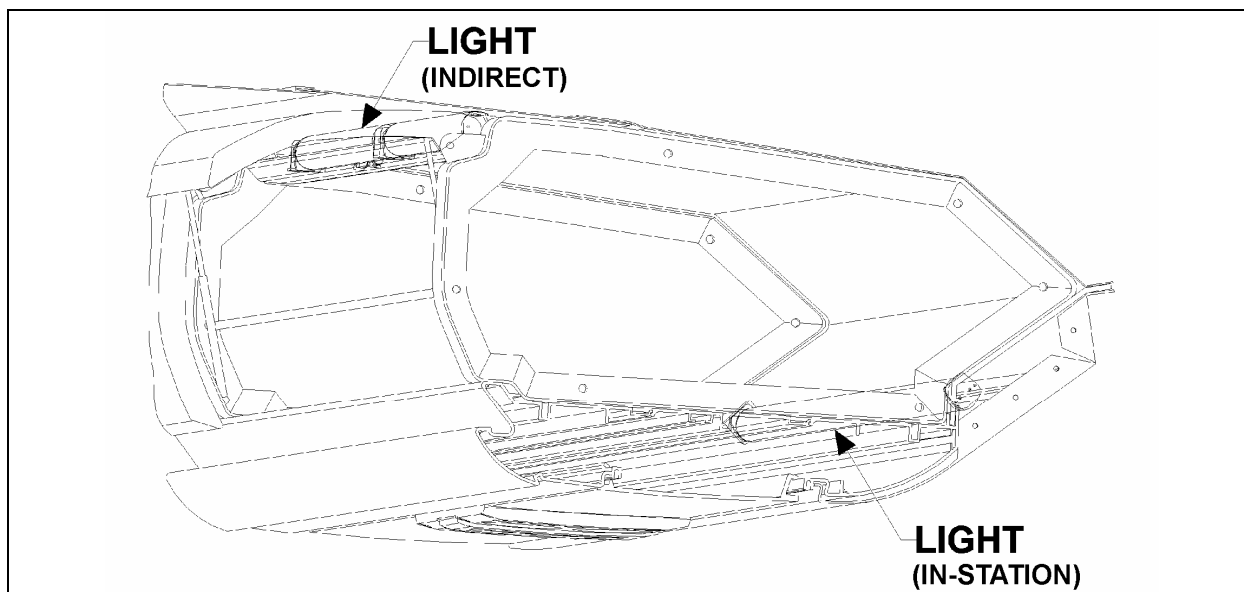

FIGURE 34: PARCEL RACK LIGHTING
4. Lift the hinged cover and replace the two retaining screws (Fig. 34).